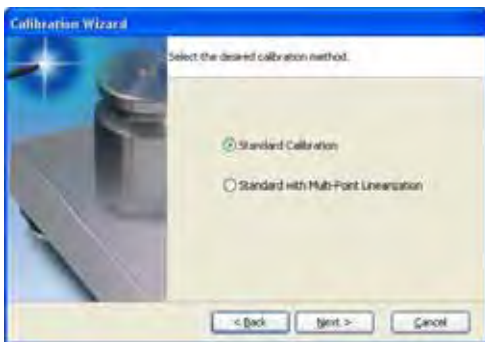

Figure 4-3. *Revolution III* Calibration Wizard Display
- On the first Calibration Wizard display (see Figure 4-3), select whether you are performing a standard (zero and span) calibration or a multi-point linear calibration. Click the *Next* button to continue.